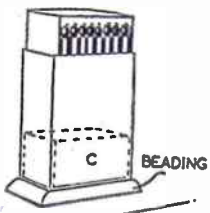

Fig. 2—Details of the matchbox holder
to a point. A block of wood (C),  $1\frac{1}{2}$  ins. by  $\frac{1}{2}$  in. by  $1\frac{1}{2}$  ins. high is made to slot into hole (B). to hold the matchbox. The block (C) pushes up the part of the matchbox containing the matches when the cover is slipped over the block (Fig. 2).